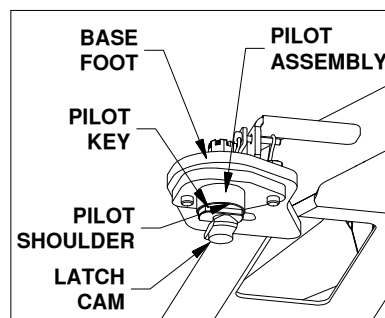
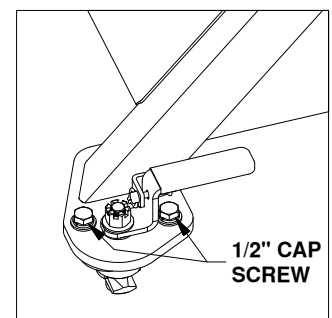

Figure C3: View under base foot
Figure C4: View of a base foot.
2. **Align pilot assemblies.** Each leg of the Companion base has an adjustable pilot assembly which is attached to the foot with two 1/2" cap screws, as shown in Figure C3. To adjust the pilot assemblies that do not fit into the attachment points, loosen both the 1/2" cap screws so the pilot assembly can move freely, see Figure C4. Set the base over the attachment points and adjust the pilot assemblies until the pilot keys pass through the slot in the attachment points and the pilot shoulders rest flat against the top of the attachment points. When all the pilot assemblies are aligned and inside the attachment points, push the base toward the cab and use a tape measure to verify that the base is approximately square with the truck bed. Tighten any loose cap screws to 80 ft-lbs.